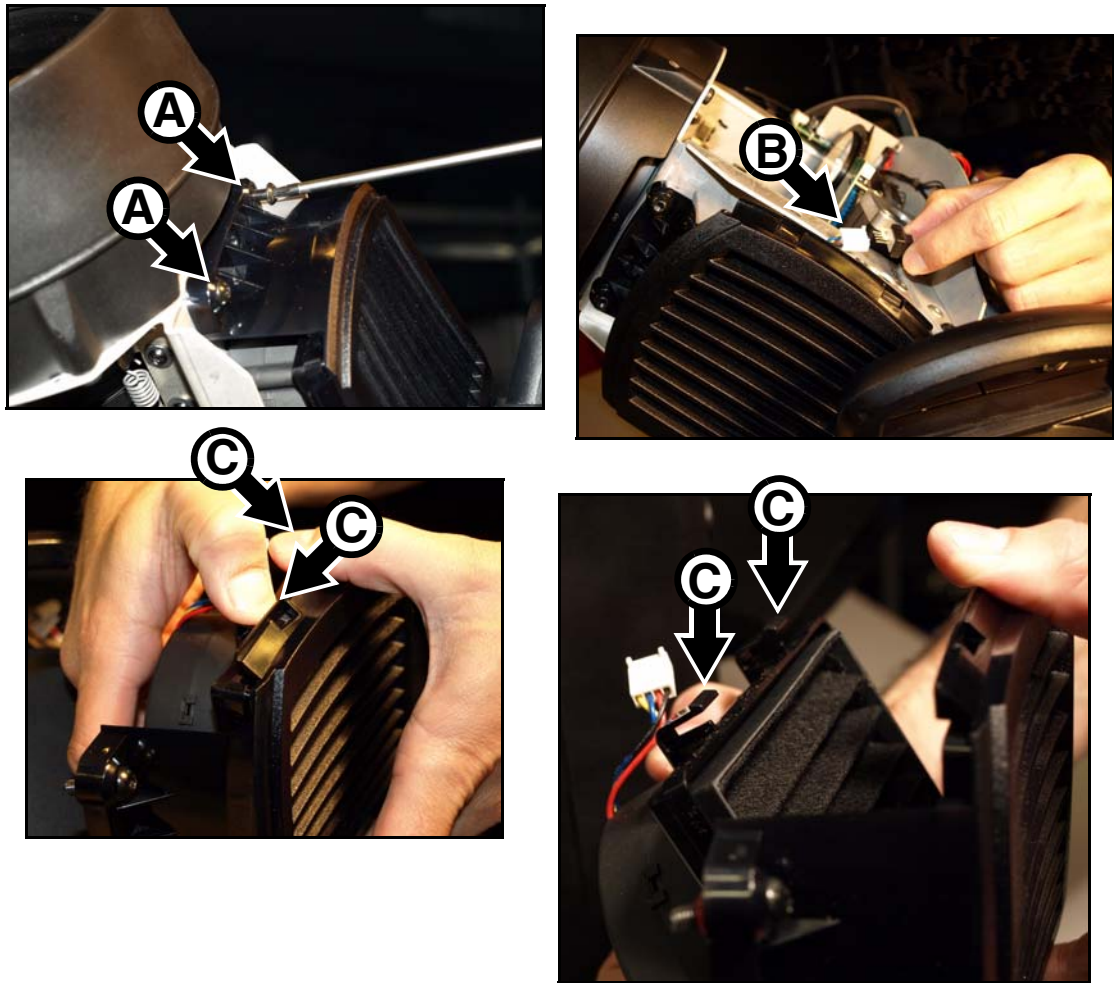

Figure 16: Head air filter removal
3. See Figure 16. Loosen the two captive Torx 25 screws **A** at the front end of the filter housing until the screws turn freely.
8. See Figure 16. Hook the side of the cover opposite the clips **C** into the housing and then press the cover onto the housing, checking that the clips snap into the housing and that the cover is located correctly with no gaps where air could bypass the filter.